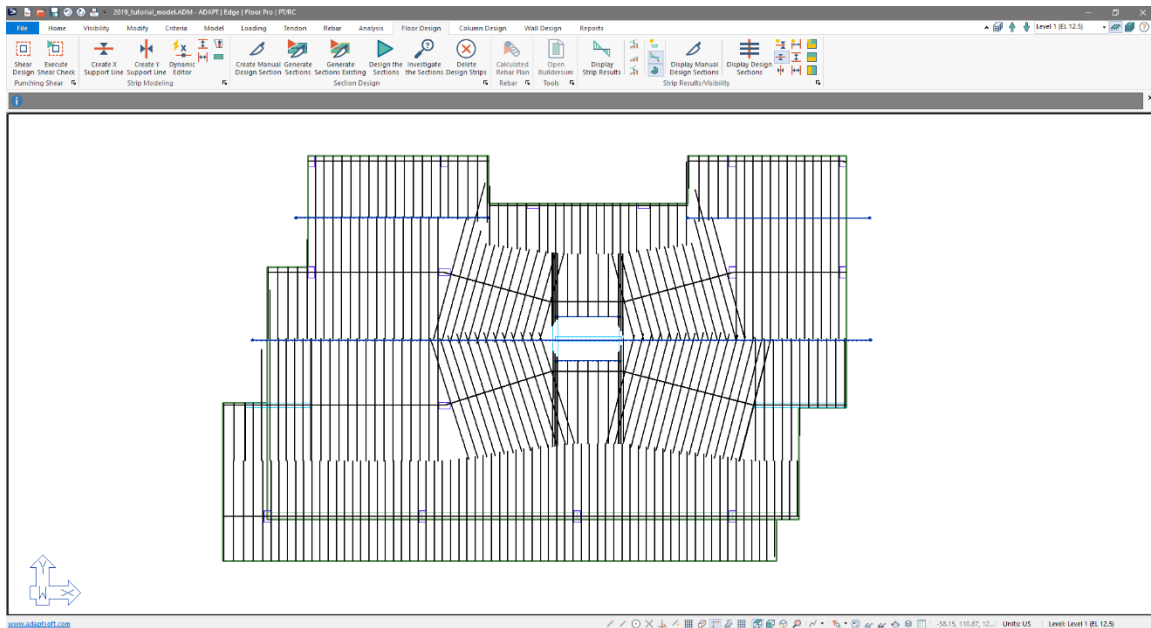

Figure 9-29
- Click the ESC key on your keyboard to exit out of the *Create X-direction Splitter* tool. When finished the users screen should look similar to **FIGURE 9-29**.